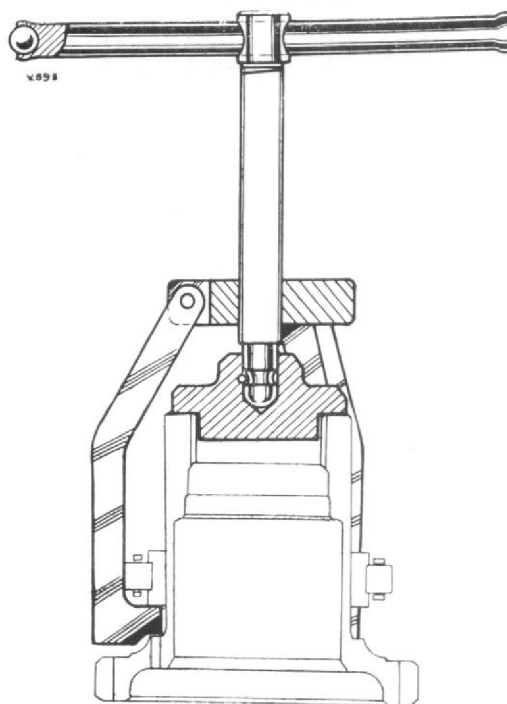

Fig. 11. Extractor T.77743 for drawing the inner roller race clear of the upper driving gear.
4. Position the reduced diameter of extractor T.77743 centre pad in the bore of the gear, engage the claws under the inner roller race and draw the inner roller race clear of the gear, Fig. 11.